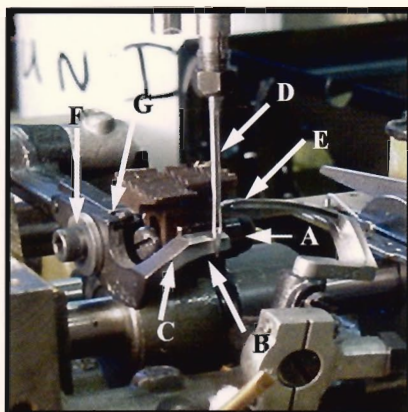

fig. 8
On Styles 53100 B and C, synchronize the upper roller feed (E, *fig 8*) with the lower feed dog. This is accomplished by removing the plug screw (A, *fig 12*) from the top of the housing (B) located at the rear right side of the machine. Then, after noting the direction the shaft journaled in the housing rotates, loosen the clamp screws in the gear hub, made accessible by removal of the plug screw. Turning this back shaft in its operating direction causes the top roller feed to start turning sooner, and turning the shaft backward causes the puller roll to start turning later.
Set the needle guard (C, *Fig. 8*) horizontally so that it slightly pushes the needle (D). It should be set as low as possible, yet have its vertical face remain in contact with the needle until the point of the looper (E), moving to the left, is even with the needle and the latter is ascending on the left side. To move needle guard forward or backward, merely loosen screw (F), move needle guard as required, and retighten screw. To raise or lower needle guard, loosen screw (F), and turn screw (G) clockwise to lower needle guard, and counterclockwise to raise needle guard. Retighten screw (F) after guard is set properly.